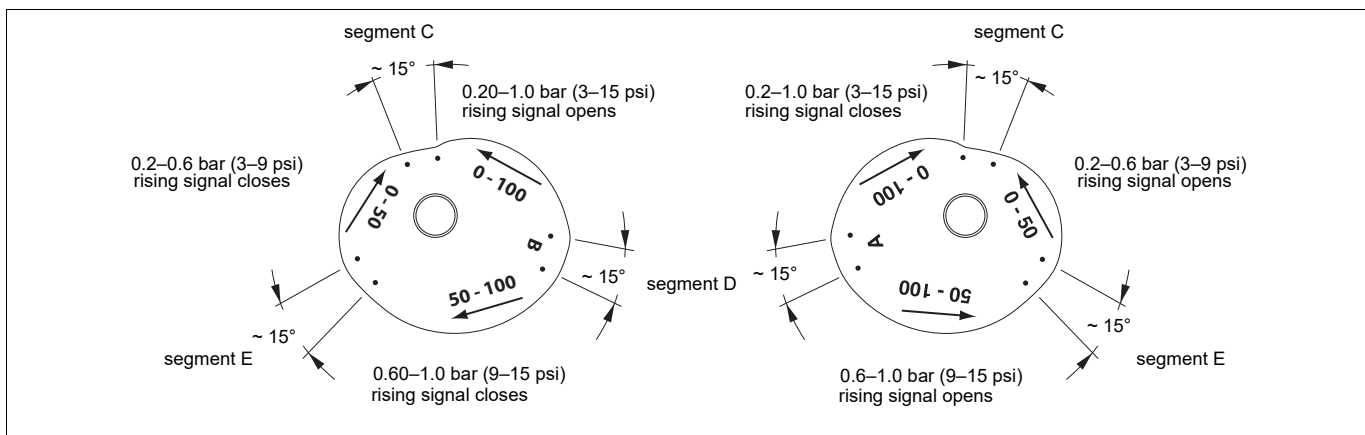

Fig. 6 Input signal ranges, the cam plate (29).
Figure 6 assists in choosing the right segment for the cam plate (29) and position for the changeover piece (46).
The figures marked on the cam plate (29) are the signal ranges expressed as percentages, for example 0-100 corresponds to 0.2-1.0 bar (3-15 psi), or 50-100 to 0.60-1.0 bar (9-15 psi), see Fig. 6.